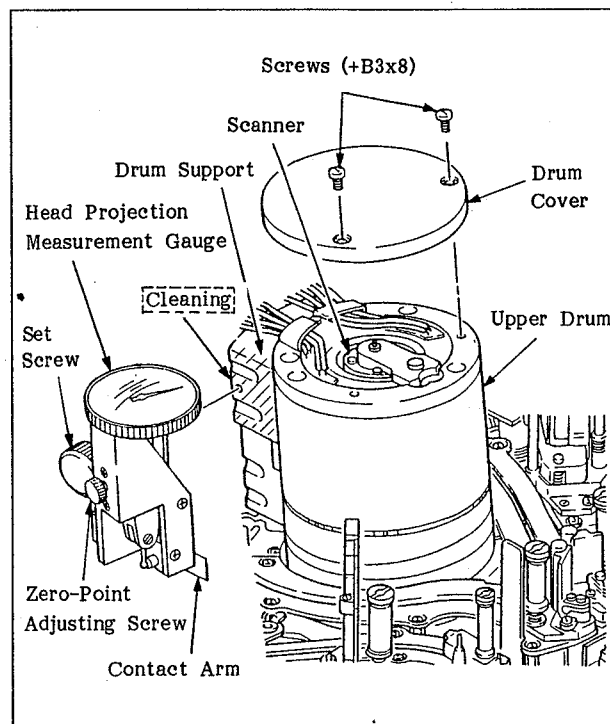
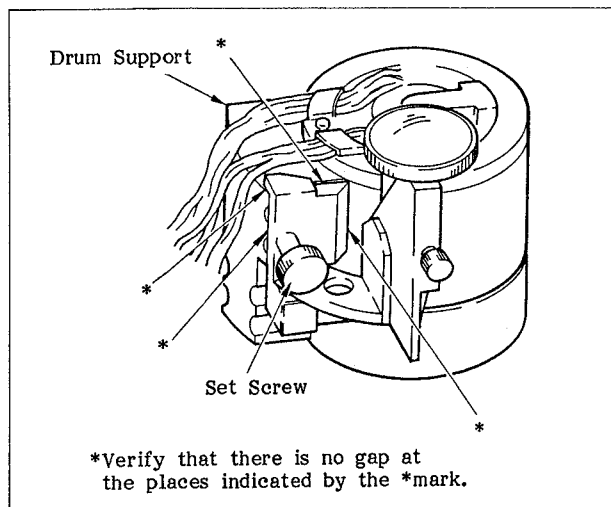

Fig. 5-21 Head Projection Check (1)
Fig. 5-22 Head Projection Check (2)
5. Mount the head projection measurement gauge in the position shown in Fig. 5-21. Clean the drum support and the mounting surface of the tool with a cloth (or gauze) moistened with alcohol before mounting it. After cleaning, tighten the set screws while pushing the tool down and in the direction of the upper drum at the same time so that there is no gap between the drum support and the tool, as shown in Fig. 5-22.